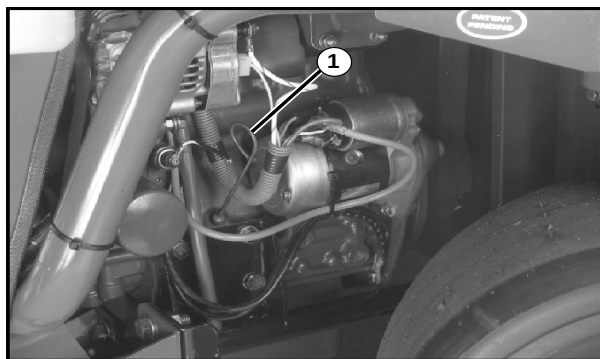
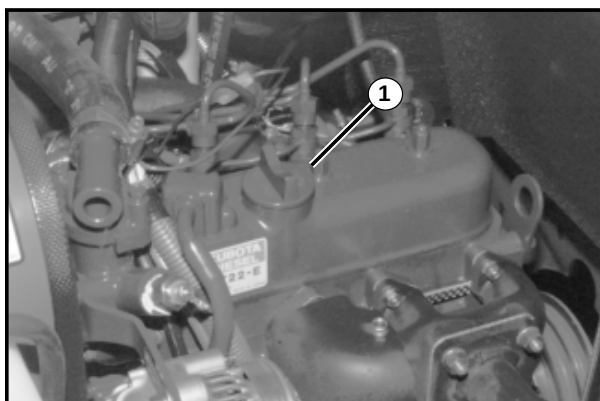

Figure 5.5.1
Figure 5.5.2
3. Remove the filler cap (Fig. 5.5.2) and refill with fresh oil up to the maximum level on the dipstick (Fig. 5.5.1). See Specification for oil grade and amount.